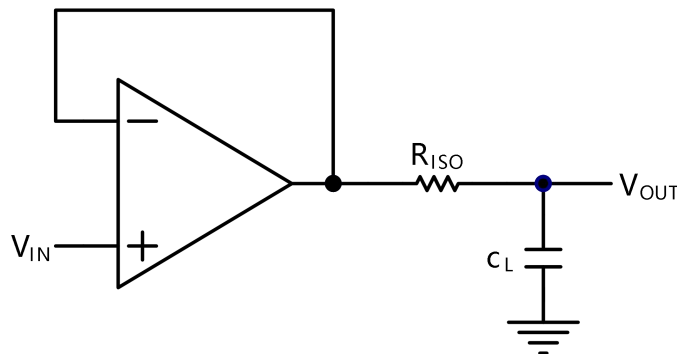
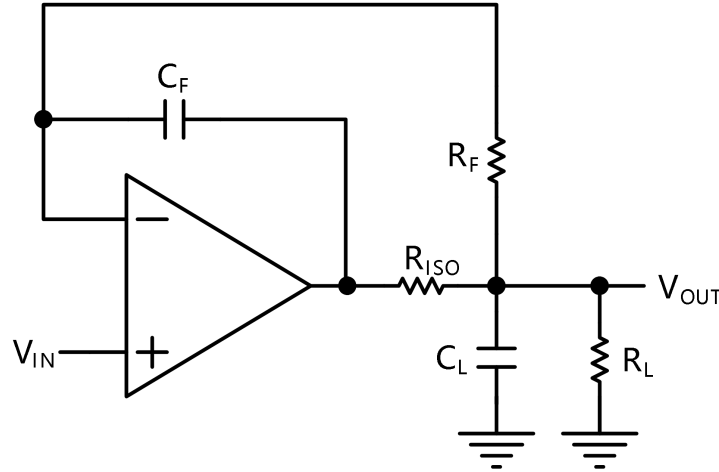

Figure 2. Indirectly Driving a Capacitive Load Using Isolation Resistor
Figure 3. Indirectly Driving a Capacitive Load with DC Accuracy
The CD805X family is optimized for bandwidth and speed, not for driving capacitive loads. Output capacitance will create a pole in the amplifier's feedback path, leading to excessive peaking and potential oscillation. If dealing with load capacitance is a requirement of the application, the two strategies to consider are (1) using a small resistor in series with the amplifier's output and the load capacitance and (2) reducing the bandwidth of the amplifier's feedback loop by increasing the overall noise gain. Figure 2. shows a unity gain follower using the series resistor strategy. The resistor isolates the output from the capacitance and, more importantly, creates a zero in the feedback path that compensates for the pole created by the output capacitance.
The circuit in Figure 3 is an improvement to the one in Figure 2. R_F provides the DC accuracy by feed-forward the V_{IN} to R_L . C_F and R_{ISO} serve to counteract the loss of phase margin by feeding the high frequency component of the output signal back to the amplifier's inverting input,